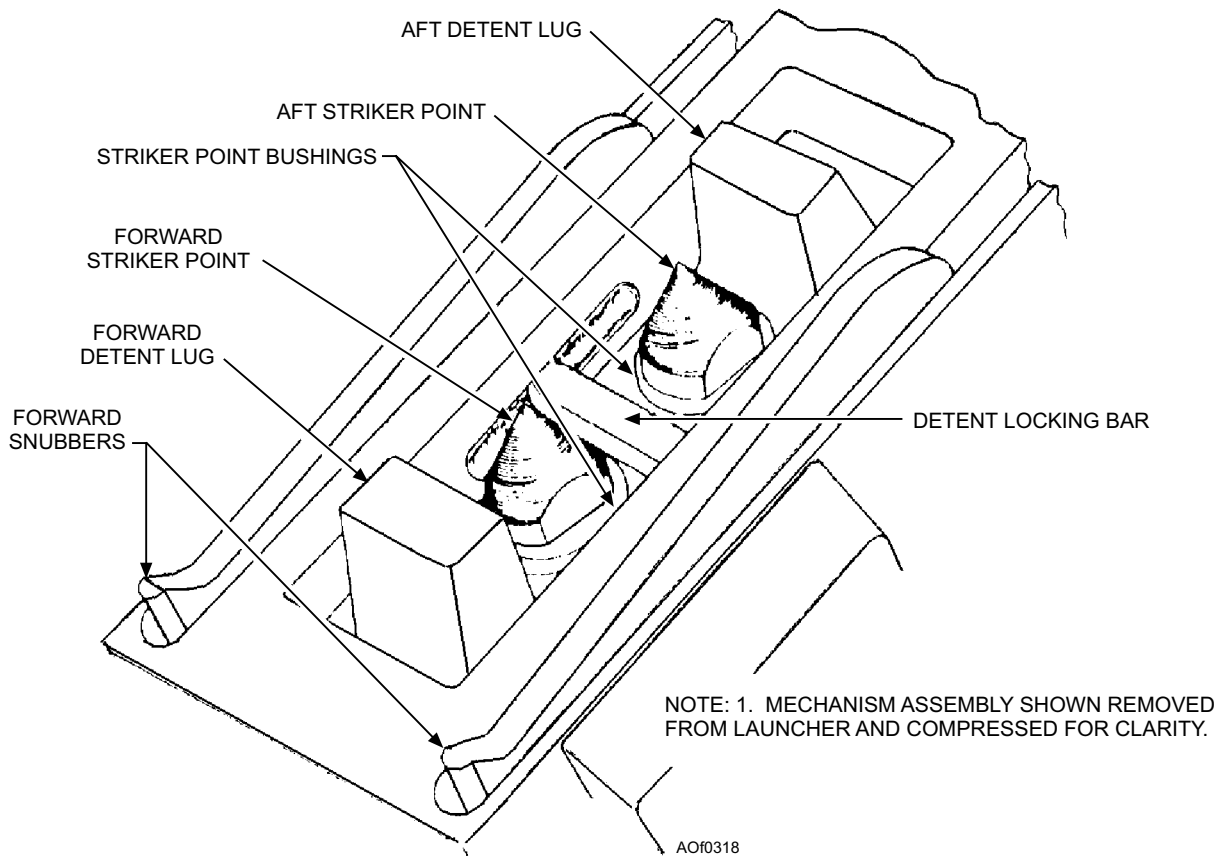

Figure 3-18.—Mechanism assembly detent and snubbers.
**DETENT, DETENT LOCK, DETENT-LOCK SOLENOID, AND SNUBBERS.**—The detent, detent lock, detent-lock solenoid, and forward snubbers (fig. 3-18) make up an electromechanical system that restricts longitudinal and lateral motion of the mounted missile. This system prevents accidental launch or release during catapult takeoff or arrested landings. A slotted detent wrench/safety pin is installed through the mechanism assembly to prevent movement of the aft detent and to safe the launcher firing circuits. It is also used to raise the aft detent lug sufficiently to clear the missile hanger during loading. The slotted detent